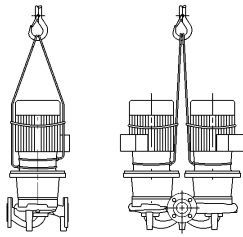

Fig. 5: Attaching the transport ropes
- The transport eyes on the motor are only for guiding while bearing the load (Fig. 5).